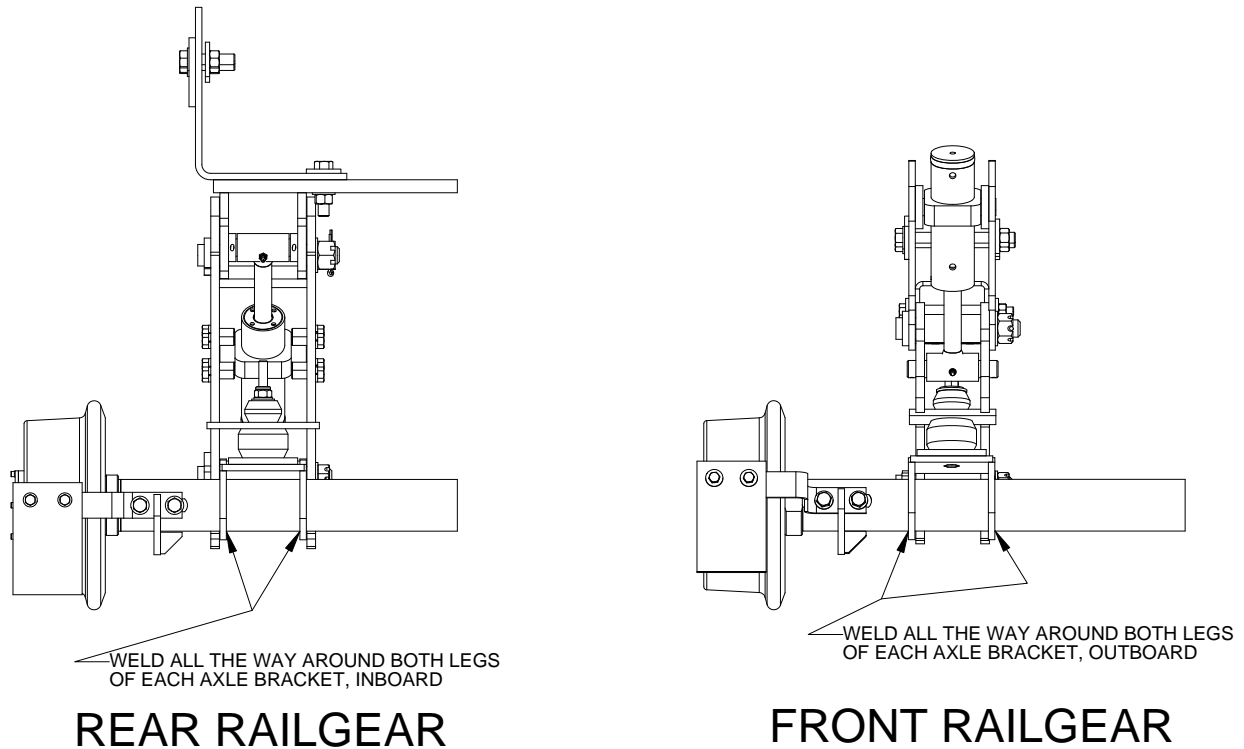

Figure 4: Axle Bracket To Axle Tube Welding Instructions
3. Finally, ensure that all the axle brackets are welded to the axle tube as shown in Figure 4, below.